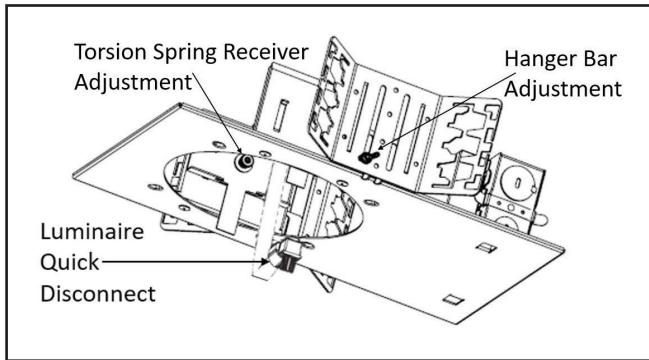
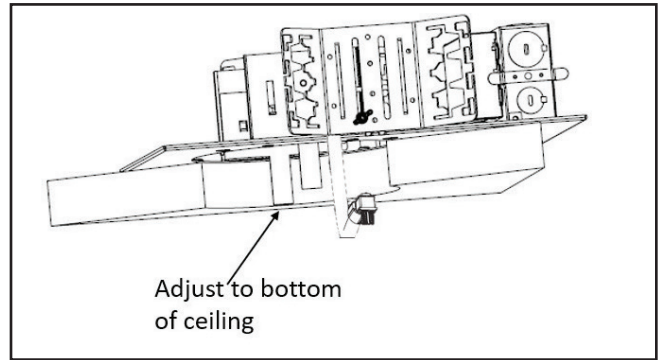

Figure 1
Figure 2
2. Torsion Spring Adjustment Screw: Adjust screws (Figure 1.) so bottom neck of torsion spring receiver is flush with finished ceiling line. (Figure 2.) Hanger bracket is reversible for total adjustment of 5".
1. Place end of flexible conduit through frame opening in ceiling exposing upper portion of quick disconnect (Figure 2.).